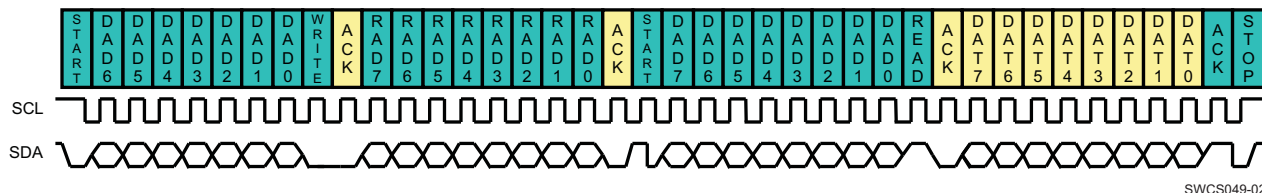

Figure 23. I²C Read Access Single Byte
- A fourth byte, representing the content of the internal register (see Figure 23)